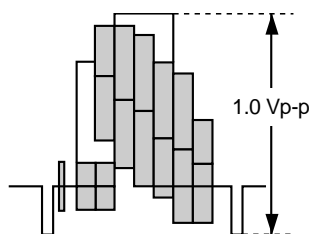

Figure 5-4.
4. Make sure that the output signal amplitude is 1.0 Vp-p as shown in Figure 5-4.